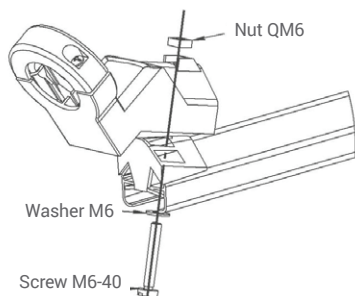

Fig 5a.
5. Install the LNB holder on the arm, see Fig 5a.